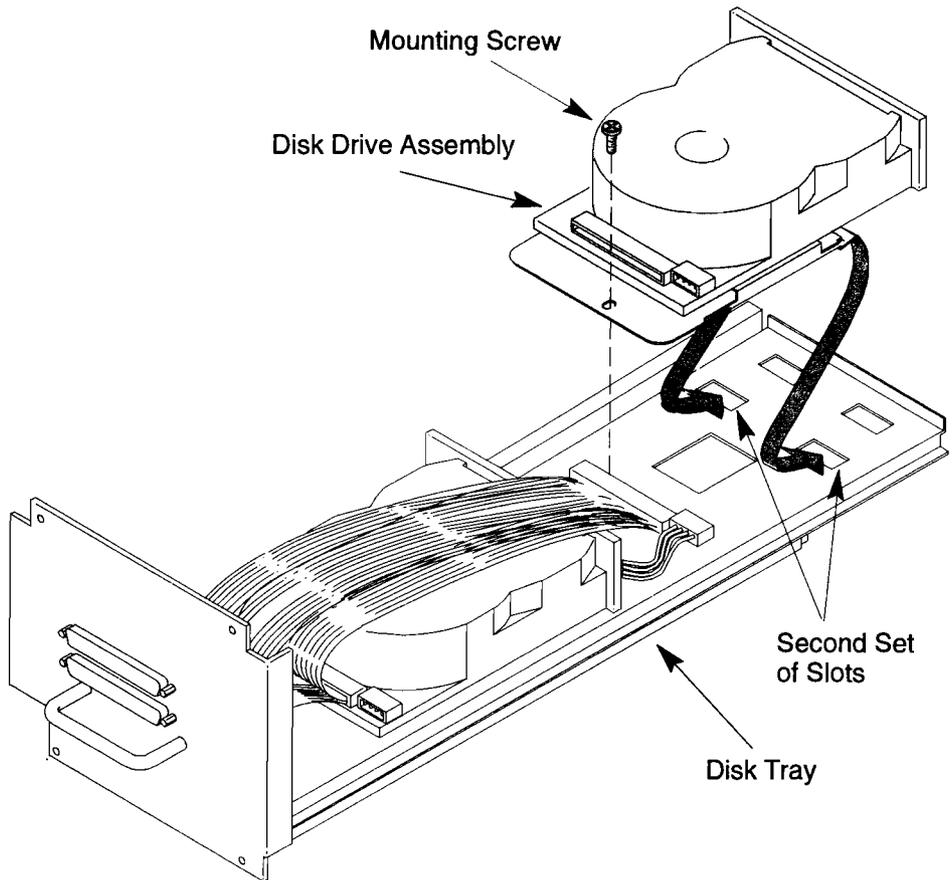

Figure B-34. Mounting the Disk Drive Assembly on the Disk Tray
- 1.** Slide the disk drive assembly into the second set of slots in the front of the disk tray. Use the mounting screw that came in the kit and a Posidrive screwdriver to secure the disk drive mounting bracket to the disk tray. (See Figure B-34.)